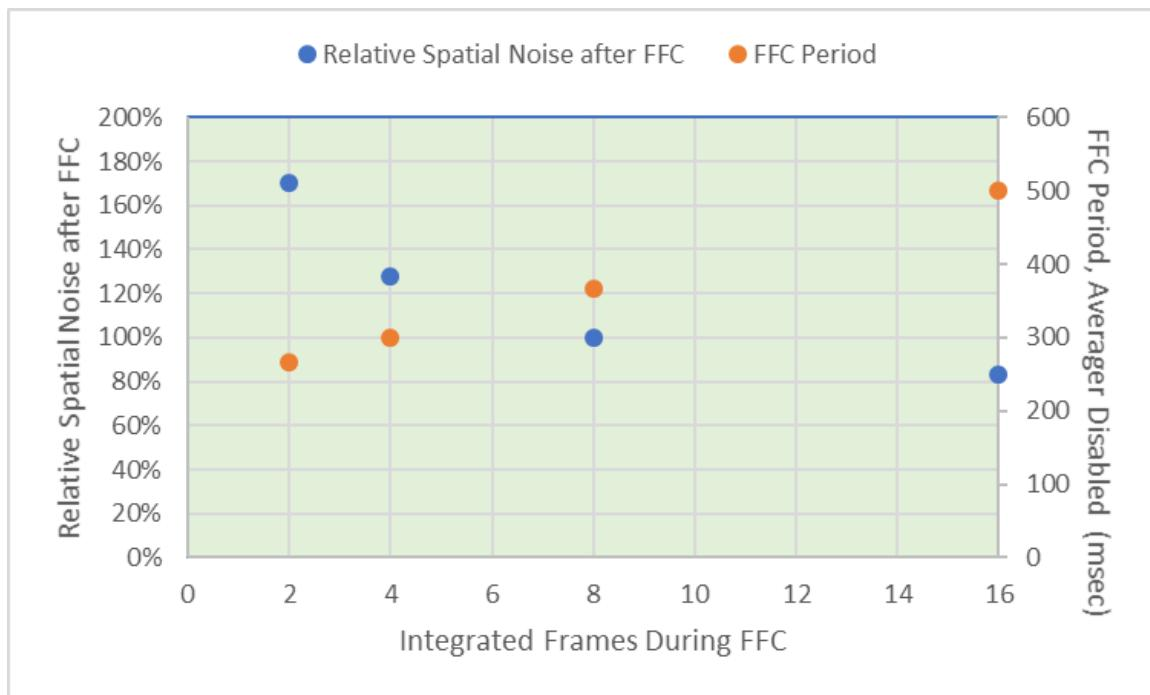

FIGURE 22: RELATIVE SPATIAL NOISE AFTER FFC VS. NUMBER OF INTEGRATED FRAMES (FACTORY DEFAULT = 8)
- **FFC Integration Period:** During each FFC event, the camera automatically integrates n frames of sensor data to generate the resulting correction term. **FFC Integration Period** specifies the value of n , either 2, 4, 8, or 16. Utilizing fewer frames decreases the FFC period (with diminishing returns due to overhead). Utilizing more frames provides greater reduction of spatial noise (with diminishing returns due to 1/f noise). Figure 22 quantifies the benefit. The factory-default value is 8 frames for cameras that include a shutter and 16 frames for shutterless. Note that with averager enabled (i.e., 30Hz output rather than 60Hz output), a value of n frames represents twice as much time as with averager disabled, since frame period is twice as long.